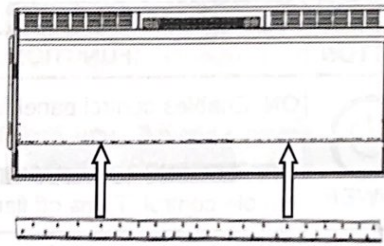

Figure 2.
- D. Place the plastic tray (I) to the fireplace designed place. Then carefully place crystal or pebbles embers into the bottom tray on the front of the appliance as illustrated. Apply an even layer from side to side. **Figure 2, Figure 3.**